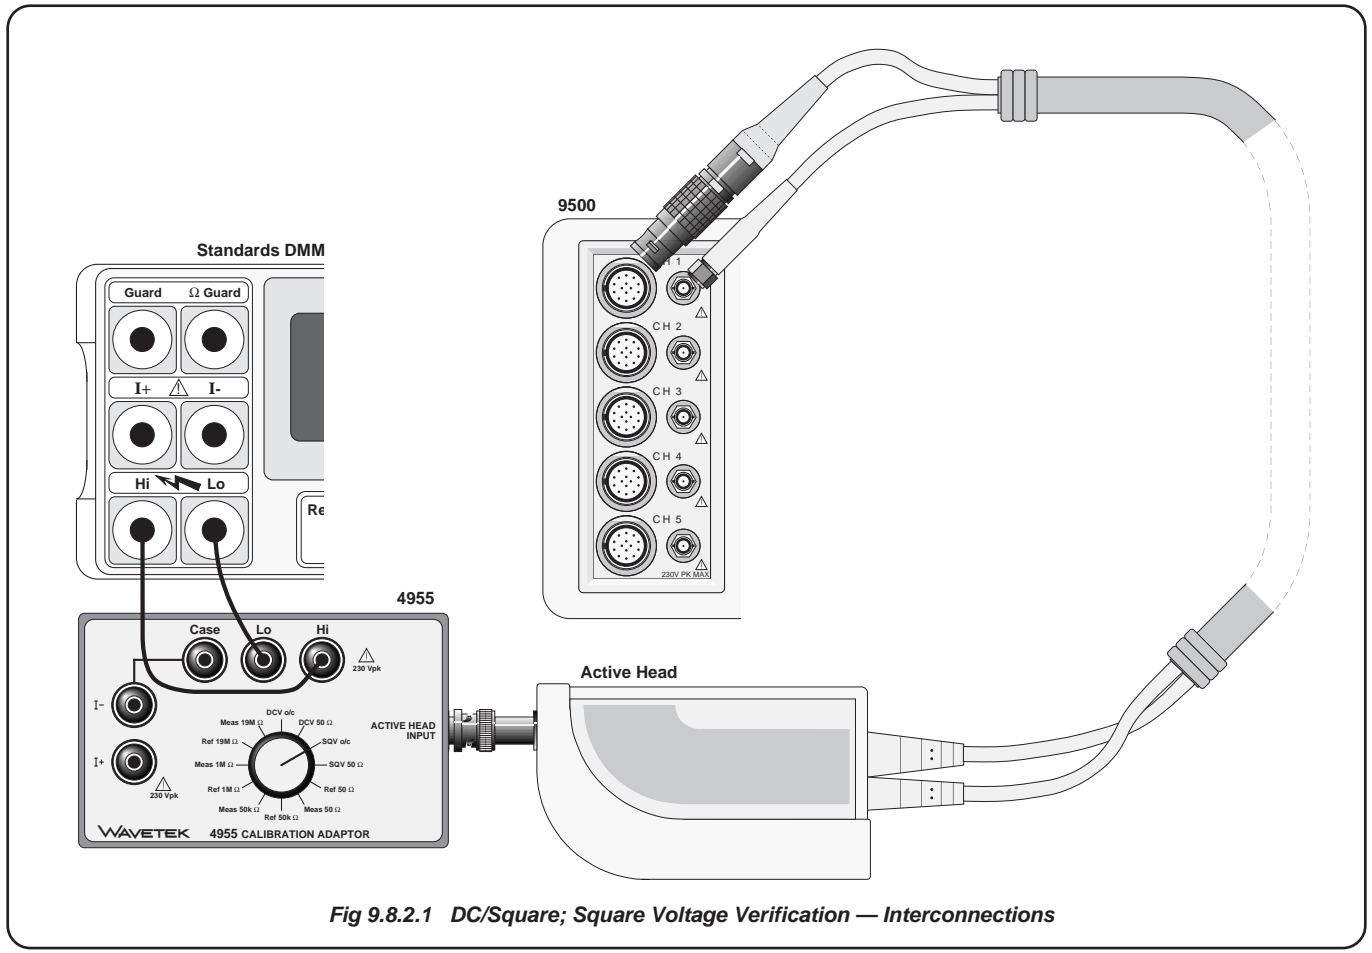

Fig 9.8.2.1 DC/Square; Square Voltage Verification — Interconnections
Refer to *Fig 9.8.2.1* opposite.
1. **Connections** Ensure that the 9500B is connected to the DMM as shown in *Fig. 9.8.2.1*, or via a similar BNC-4mm adaptor, and that both instruments are powered on and warmed up.